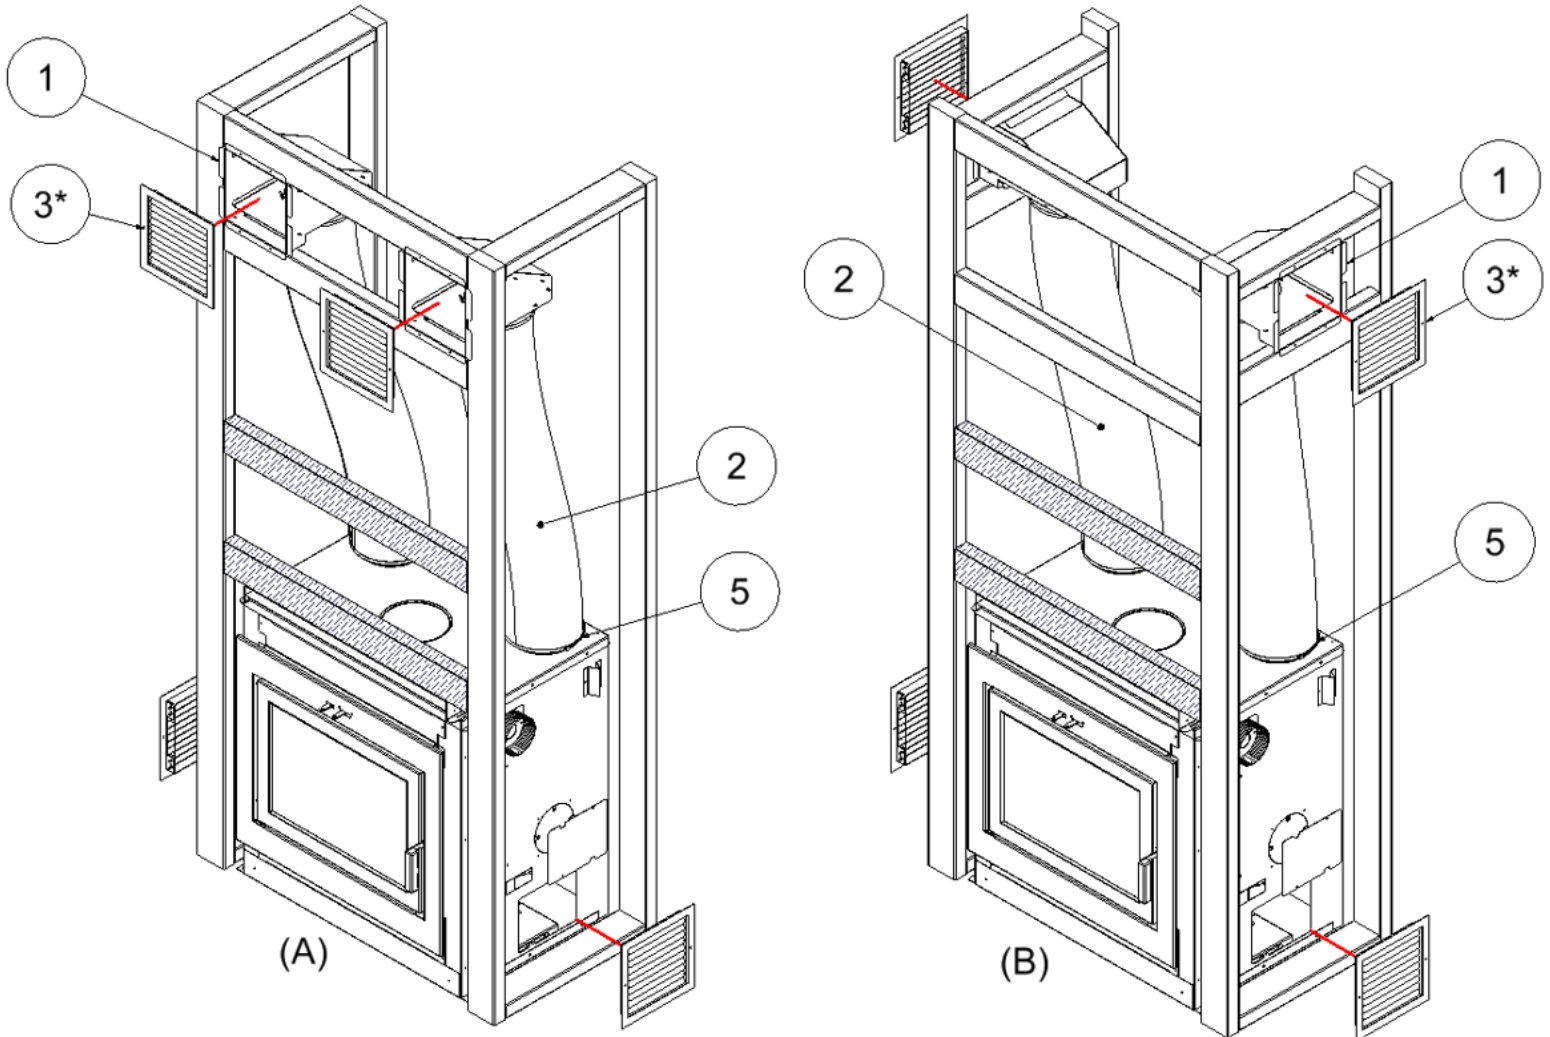

Figure 3-12: Elegance 30 6” Dual Gravity Duct Installation with Outtakes at (A) Front Wall and (B) Side Wall
The Elegance 30 can be placed directly onto or against normal, combustible construction materials such as lumber, plywood, millboard, particleboard, drywall, and decorative wood paneling. **WARNING: The fireplace should NOT be placed directly against or be in contact with an insulation material.** A portion of the framing on the face of the chase must be constructed with nominal 2" x 3" or 2" x 4" metal studs and the remainder can be constructed with nominal 2" x 3" or 2" x 4" lumber. Note that any framing exceeding the 1" lateral standoffs can be constructed of 2" x 3" or 2" x 4" lumber. Refer to Figure 3-12 for examples of a framing design based on the surround configuration. The framing must be nailed or screwed onto the floor and to the ceiling.
CAUTION: Respect the minimum framing requirements outlined in Figure 3-12 as well as the chimney manufacturer's clearances to combustibles.
3. Within the outtake opening, fasten the Louver Diffuser Assembly (Item 1 of Figure 3-12) to the framing with the 6" duct adapter facing the downward position. Repeat for the other outtake opening.
4. Measure the distance between the Duct Adapter on top of the unit to the Duct Adapter on the Louver Diffuser Assembly and cut the 6" Flex Insulated Duct (Item 2 of Figure 3-12) to the necessary length. Repeat for the other outtake.
5. Complete the connections by sliding the 6" Flex Insulated Ducts over the Duct Adapters and secure the connections with the 6" Worm Gear Clamps (Item 5 of Figure 3-12).